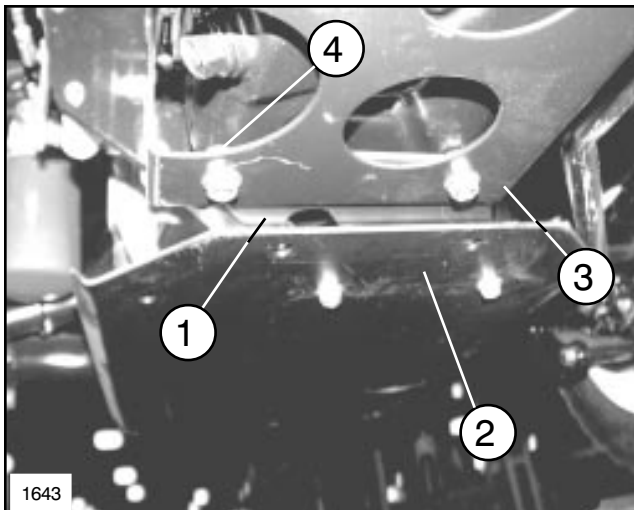

FIG. 3
3. Making sure (99-0466) Adjustment Plate has the welded nuts up toward the unit, slide Adjustment Plate over the Workman® unit's Oil Pan Guard, (this Guard has two holes for mounting the Adjustment Plate) secure it into place using two 3/8"-16 x 5/8" Lg. Hex. Hd. Cap Screws. **IMPORTANT: Make sure these screws are not too long and do not rupture the oil pan when tightening.** See FIG. 3. Tighten all screws and nuts securely.